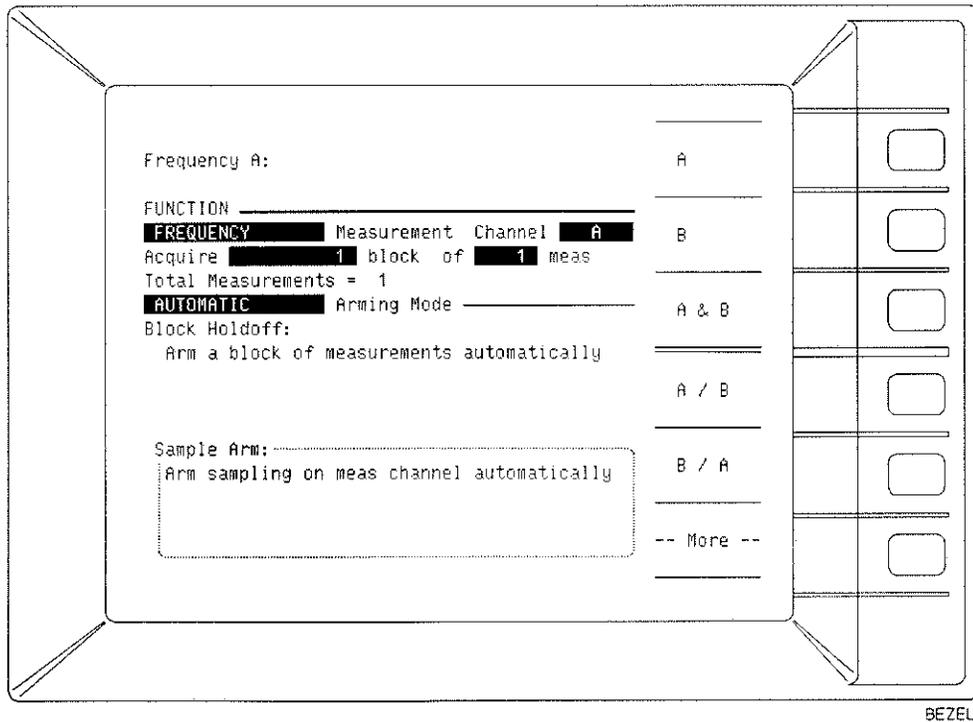

Figure 2-15. Arming and Gating FUNCTION Screen Display
- E. Press the **A** softkey. (The HP 5371A front-panel CRT display should appear as in *Figure 2-15*.)